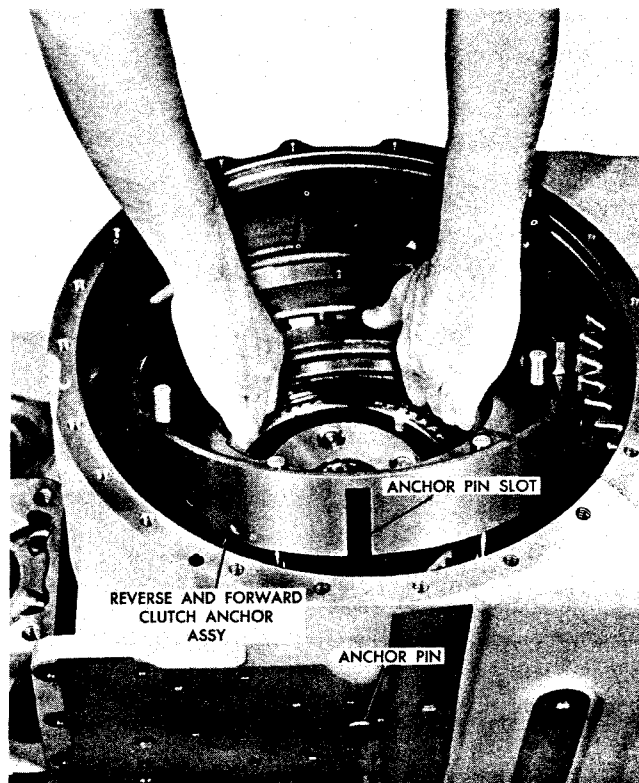

Fig. V-27. Removing (or installing) forward- and reverse-range clutch anchor assembly and anchor pin
(1) Remove the forward and reverse clutch anchor assembly (fig. V-27).